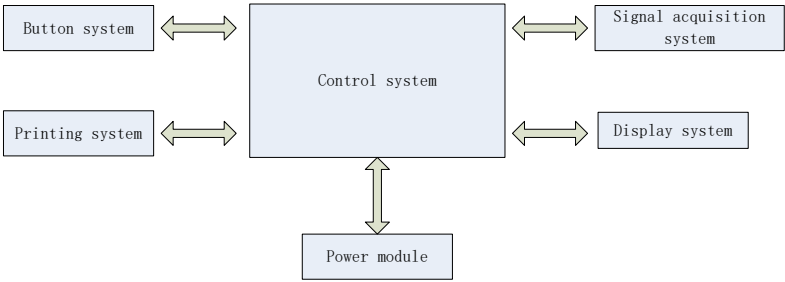

Figure 4-2 Block diagram of control unit
##### (2) Principle block diagram is shown in Figure4-2.